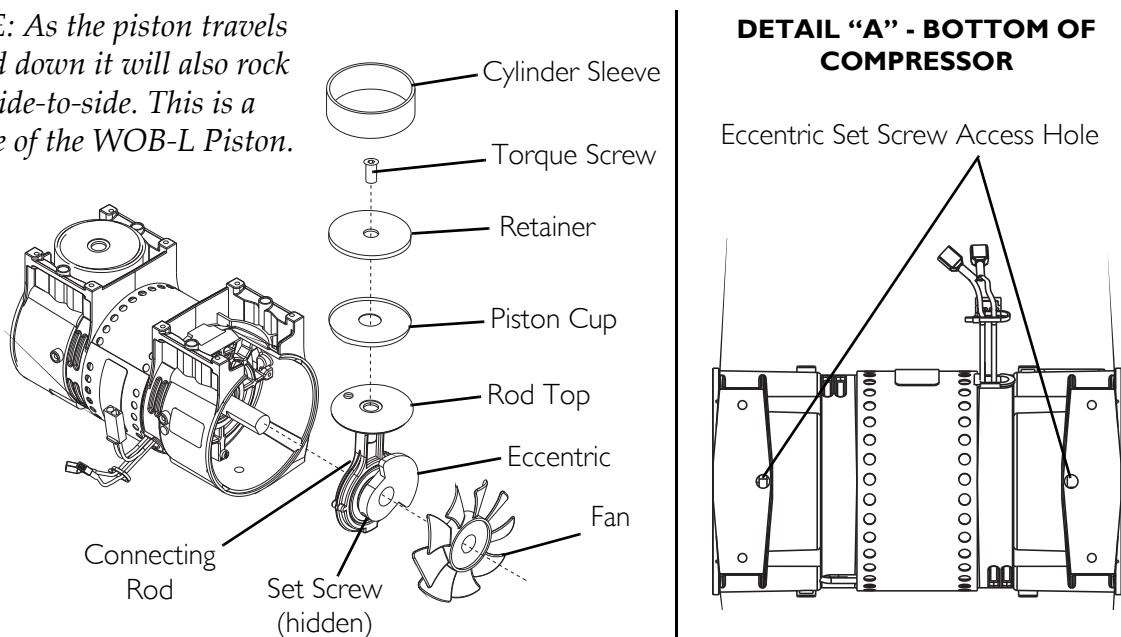

FIGURE 7.4 Removing Compressor and Compressor Heads - Rebuilding the Compressor - Fan - Connecting Rod and Eccentric Assembly - Piston Cup
NOTE: For this procedure, refer to FIGURE 7.4.
2. Insert the 1/8-inch Allen wrench into the access hole in the bottom of the compressor housing (Detail "A" of FIGURE 7.4).
NOTE: For this procedure, refer to FIGURE 7.4 on page 36.
4. Using the access hole, tighten set screw to 40 inch-lbs (Detail "A" of FIGURE 7.4).